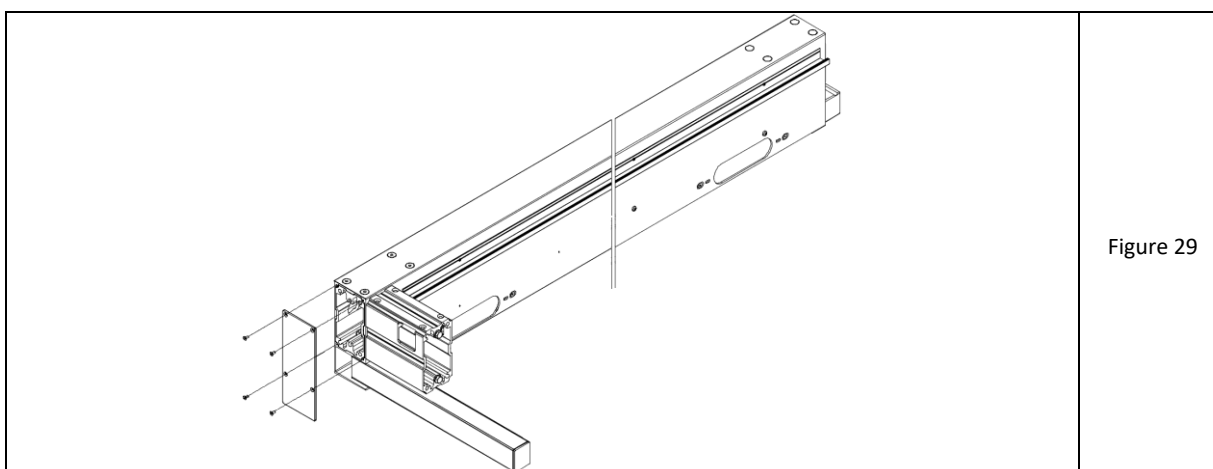

Figure 29
5. Tighten the end cap 85x212 at the end of the cross beam on the side with the angular overflow. Each for 4 screws M4x8 (fig. 29).